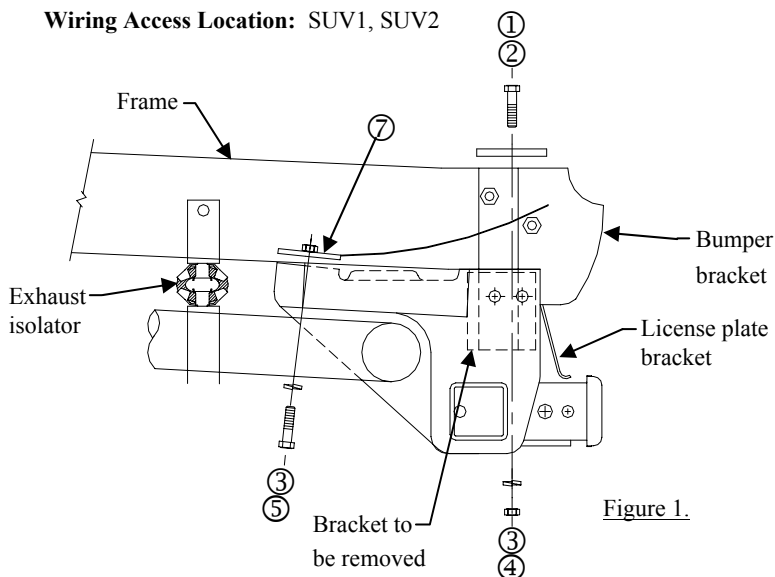

Figure 1.
①	Qty. (2)	Bolt 1/2-13 X 1.50	⑥	Qty. (2)	Nut M8 X 1.25
②	Qty. (2)	Spacer	⑦	Qty. (2)	Wire Nut Spacer
③	Qty. (6)	Lock Washer 1/2	⑧	Qty. (2)	Lock Washer 5/16
④	Qty. (4)	Hex Nut 1/2-13	⑨	Qty. (4)	Flat Washer 5/16
⑤	Qty. (2)	Bolt M12 X 1.25 X 35	⑩	Qty. (2)	Bolt 1/2-13 X 1.25
- Remove bracket from each side of vehicle frame as shown in Figure 1. Save brackets and fasteners for reinstallation if the receiver is removed from the vehicle.
- Install 1/2" hex bolt, spacer, lock washer and nut through bottom of frame as shown in Figure 1.
- While holding nut spacer in place, install M12 hex bolt and lock washer through side bracket and into nut block as shown in Figure 1.
- Assemble two (2) 5/16" flat washers and one (1) 5/16" lock washer to each end of exhaust isolator, as shown in Detail "B" and reinstall using 8mm hex nuts provided. If additional exhaust clearance is required, bend metal portion of isolator as indicated by arrows.